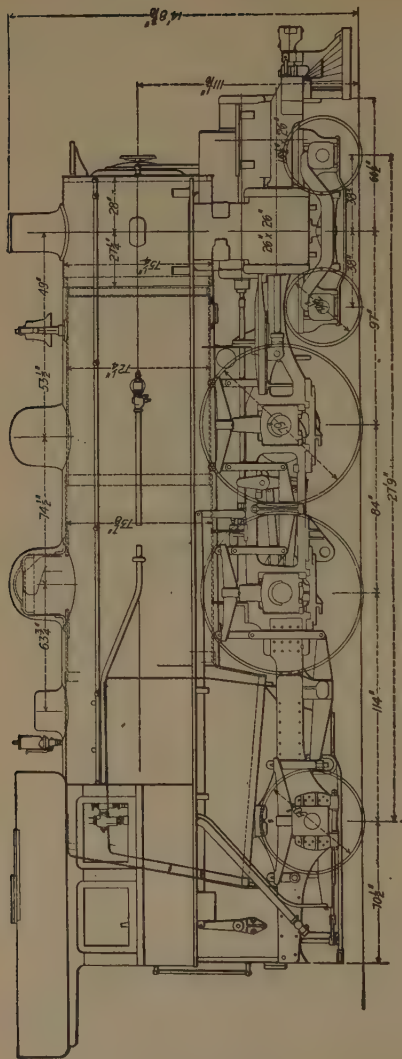

Fig. 365. Side Elevation.
A. The relative positions of the H. P. and L. P. cylinders may be seen in Figs. 365 and 366. The smoke-box steam pipes deliver steam into passages in the L. P. saddle. It is brought to the forward part of the valve chamber to the H. P. piston valves through inclosed elbow pipes, one of which is seen in